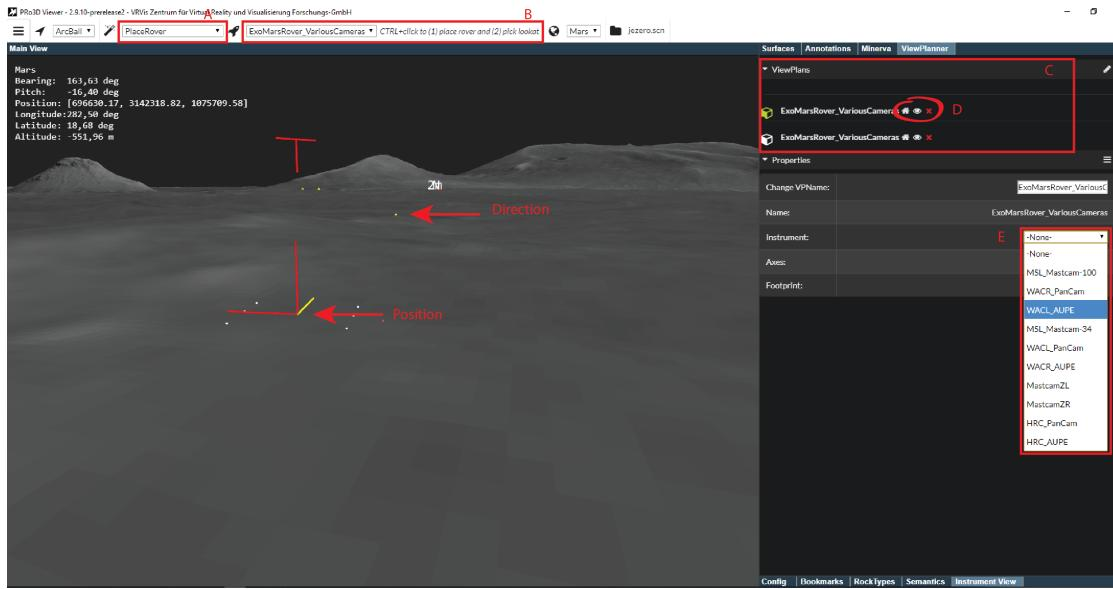

Figure 22: The view planner. The rover is placed on the surface in the main view (left). All rovers in the scene are listed in the ViewPlanner tab (right).
To use the View Planner make sure that a **rover.xml** file is in the **Release\InstrumentStuff** folder. Then you can place one or more rovers into your scene. Therefore set “PlaceRover” in the actions menu (Figure 22 A), select a rover model in the rover menu (Figure 22 B), press CTRL+LMB and pick two points on the surface in the main view. The first point (green) is the position and the second point (yellow) the viewing direction of the rover. In the ViewPlanner tab is a listing that shows all ViewPlans in the scene (Figure 22 C). There is a little menu beside each ViewPlan shown in Figure 22 D:
- Instrument: select an instrument (camera) from the list (Figure 22 E).